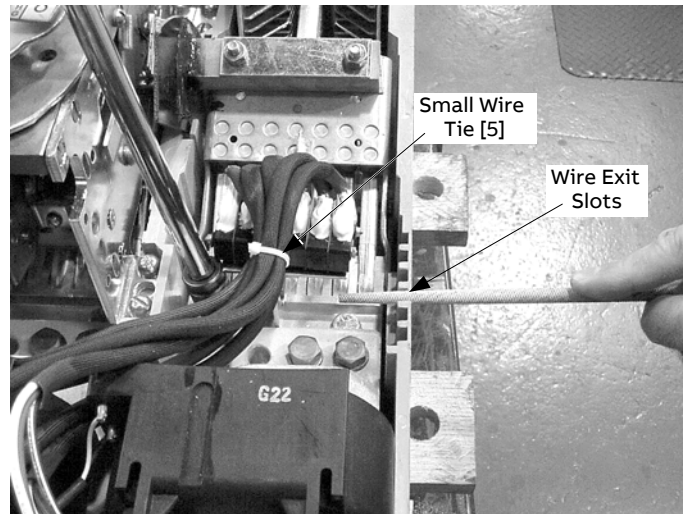

Figure 13. Filing slots in the breaker base for exit of the auxiliary switch wires (2500–4000 A shown).
14. File three slots in the breaker base, as shown in Figure 13, to accommodate the auxiliary switch wires.